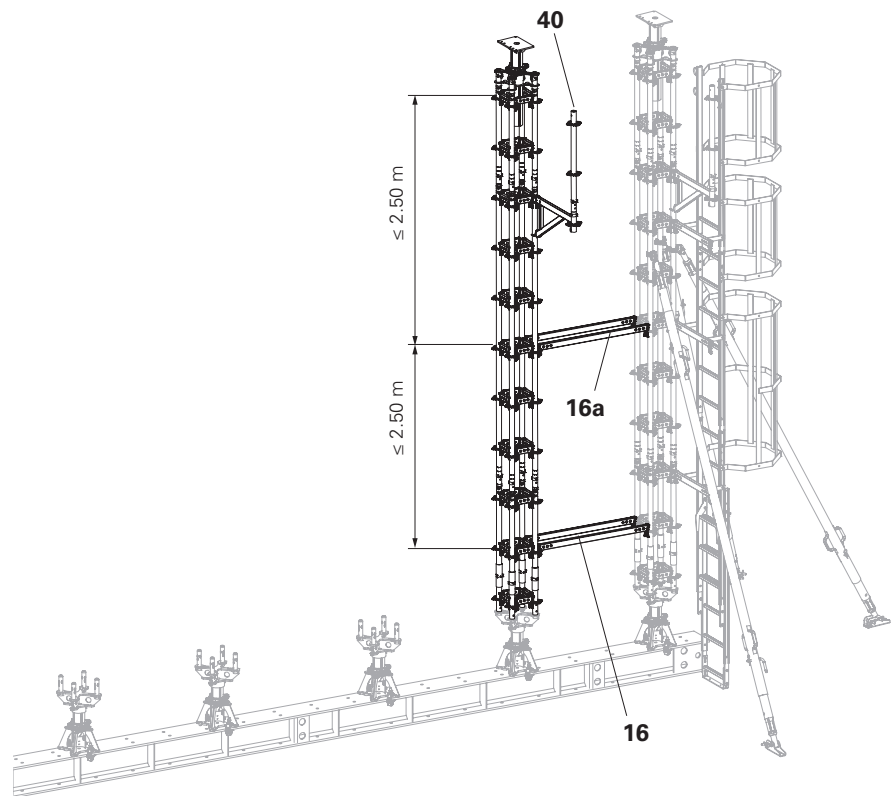

Fig. A6.15
2. First install horizontal ledgers (**16**) in the rosettes of the second level as an assembly aid (max. 1.50 m). Subsequently, the spacing of the horizontal ledgers (**16a**) at the top must not exceed 2.50 m. (Fig. A6.15) For more information see Section A6 "Work Platform".